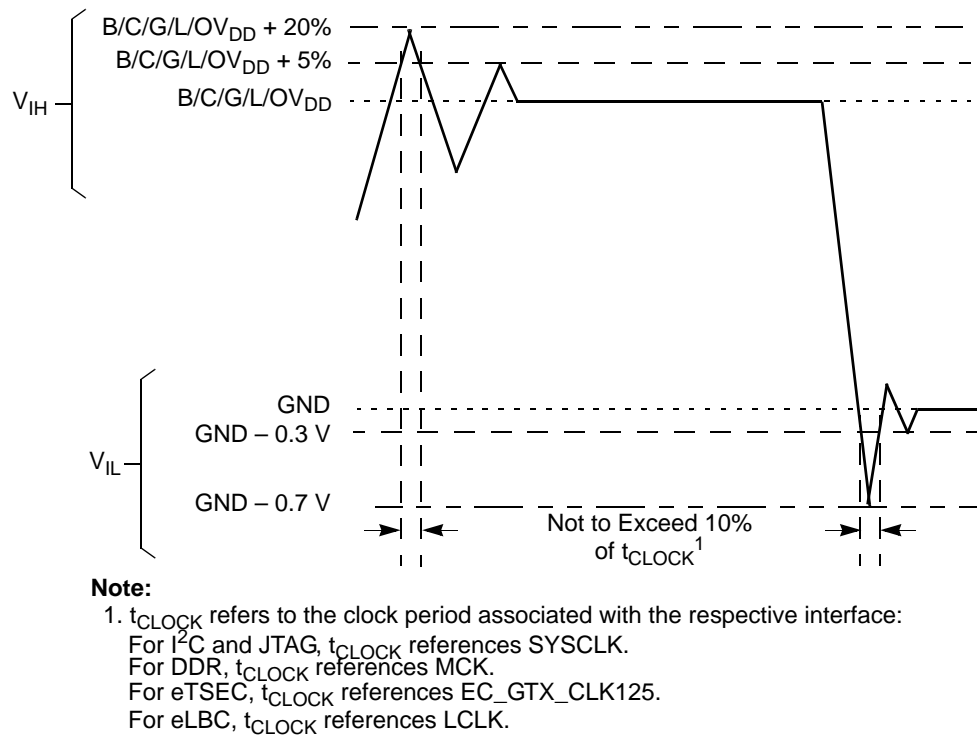

Figure 7. Overshoot/Undershoot Voltage for BV_{DD}/CV_{DD}/GV_{DD}/LV_{DD}/OV_{DD}
- (C,X,B,G,L,O) V_{IN} and MV_{REF} may overshoot/undershoot to a voltage and for a maximum duration as shown in Figure 7.
Figure 7 shows the undershoot and overshoot voltages at the interfaces of the device.